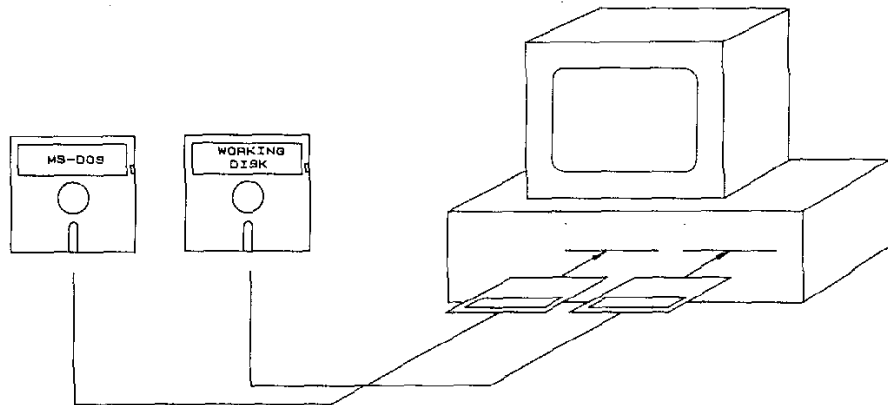

FIGURE 3.3
- Step 6** — As shown in Figure 3.3, leave the DOS disk in drive A, and place the blank working disk in drive B. Close drive B.